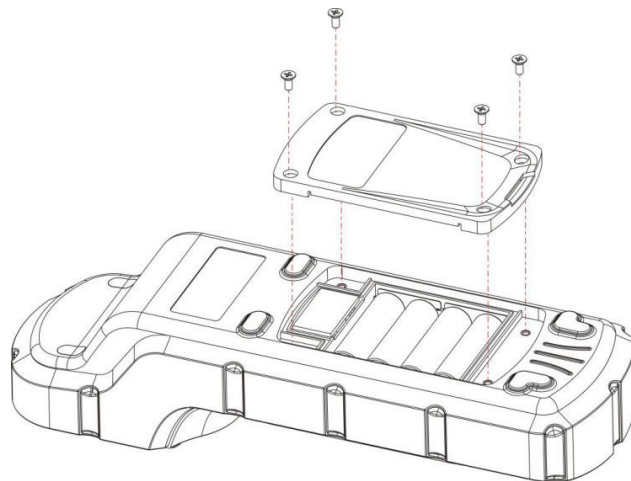

Figure 3. HM-900 battery compartment
The HM-900 battery compartment, shown in Figure 3, is on the back side of the instrument. Insert a small pad underneath the screen area to make the back-surface level when the instrument is turned upside down. Install batteries using the following steps:
2. Insert four batteries into the battery holder (Figure 3). Make sure the positive battery polarity marker (+) is aligned with the positive marker (+) on the battery holder.